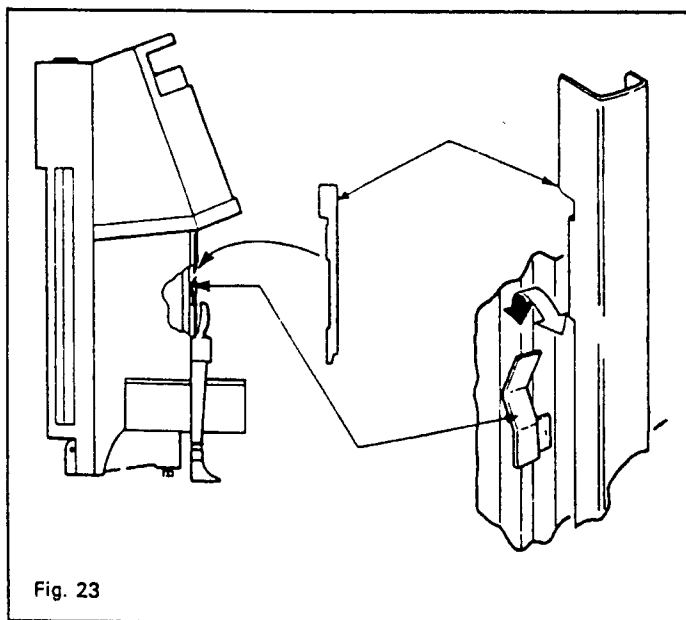

Fig. 23
- (c) Fit the window surround trim unit making sure that the vertical trims slide over the location clips on the window unit (see fig. 23).